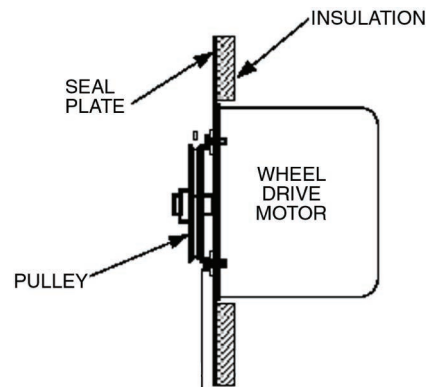

Fig. 188 — Pulley Location
6. Install the pulley as shown in Fig. 188 and secure the set screw to the drive shaft.